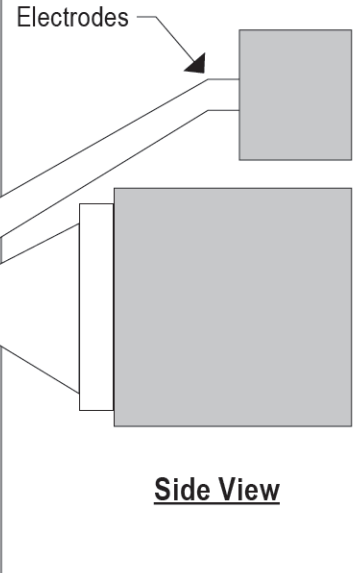

Figure 8 - Electrode Adjustment Detail
- Inspect electrode adjustment (figure 8 below). Due to erosion, adjustment may change.
Electrodes are adjusted at time of manufacture. However, they should be checked periodically and at time of installation, to be sure they are set as noted in the following dimensional drawing. Swing burner clean out door back for inspection (figures 8 and 10 below). **CAUTION: TURN OFF MAIN ELECTRIC SUPPLY SWITCH BEFORE CHECKING OR ADJUSTING ELECTRODE SETTING.**
Tip of nozzle must be $\frac{1}{4}$ " ahead of inside radius of end-cone. If nozzle is behind inside radius of end-cone, coking will occur and end cone can become clogged (figure 8 below).
To adjust, remove burner from cabinet (figure 6 below), loosen Preheat Sink securing nut and set screw, push fore or aft as needed. **WARNING:** This adjustment is done at the factory and should not be moved unless figure 8 dimensions have been altered.